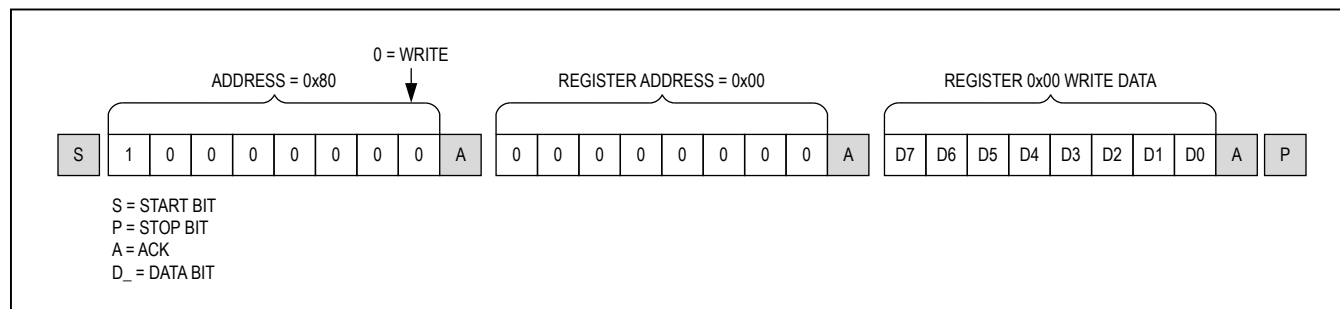
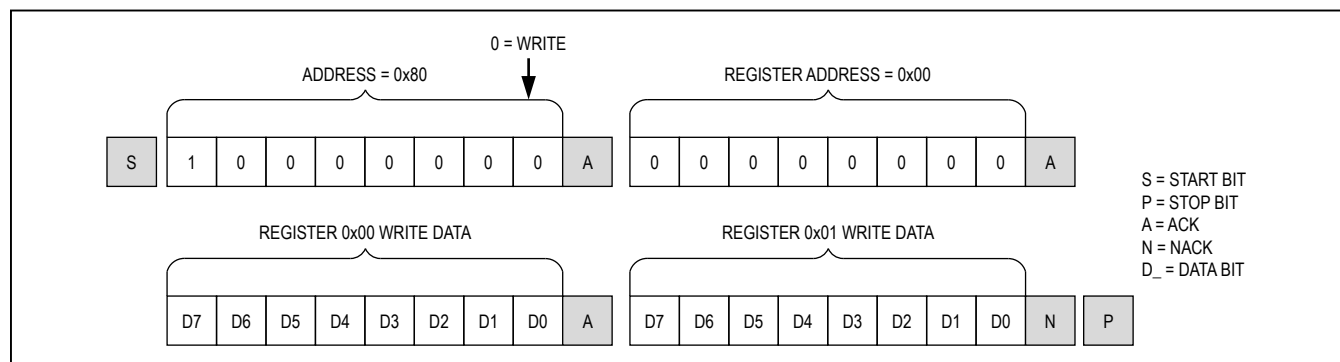

Figure 43. Format for I²C write
Figure 44. Format for I²C Write to Multiple Registers
Writes to the deserializers comprise the transmission of the slave address with the R/\overline{W} bit set to zero, followed by at least one byte of information. The first byte of information is the register address or command byte. The register address determines which register of the device is to be written by the next byte, if received. If a STOP (P) condition is detected after the register address is received, the device takes no further action beyond storing the register address (Figure 43). Any bytes received after the register address are data bytes. The first data byte goes into the register selected by the register address, and subsequent data bytes go into subsequent registers (Figure 44). If multiple data bytes are transmitted before a STOP condition, these bytes are stored in subsequent registers because the register addresses autoincrements.